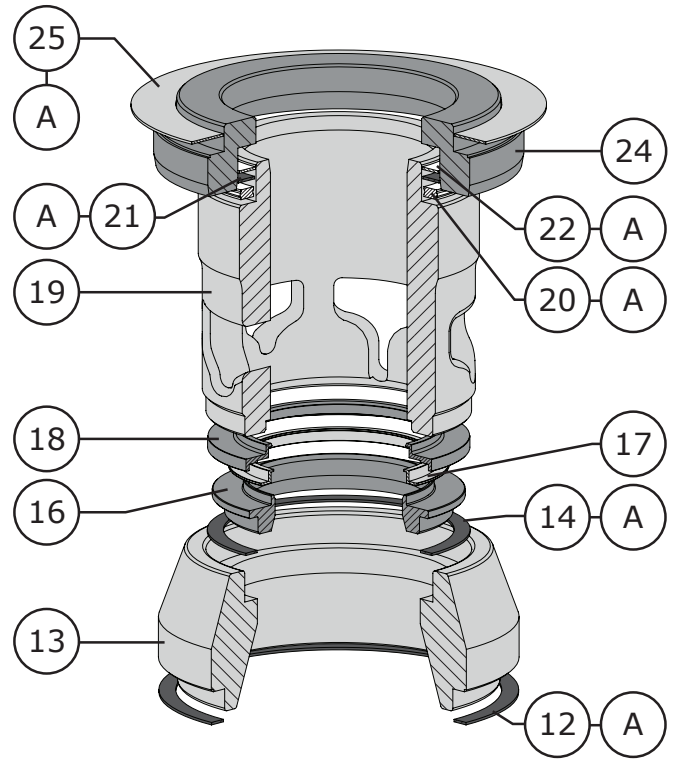

Figure 38 Restricted Trim / Soft Seat Diagram
For Soft Seat Valves: Install the disk seat (Key 16) onto the seat ring gasket (Key 12). Install the PTFE disk (Key 17) onto the disk seat. Install the disk retainer (Key 18) onto the PTFE disk. Refer to Figure 38.
- 7 **For Reduced Trim:** Install the cage adapter (Key 24). Apply Permatex® Nickel Anti-Seize (Key A) to the top of the cage adapter and top surface of the cage adapter gasket (Key 25) and install. Refer to Figures 38 & 40.